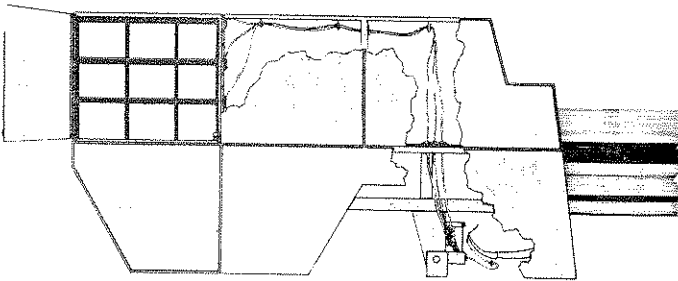

Fig. 3
2. Route twine over the brackets on the inside-top of each row and through the twine guides on the rear of the twine box, see Fig. 3.
3. Route twine through the three sets of twine guides near the top of the chamber, then down through the twine guide mounted above the baler tire, see Fig. 3.